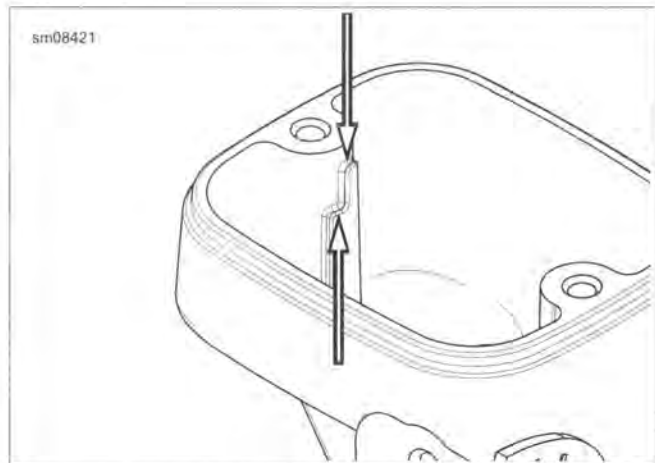

Figure 2-54. FILL Level Boss (front master cylinder)
21. See Figure 2-54. Add brake fluid to the master cylinder reservoir until the fluid level is between the ledges on the fill level boss.